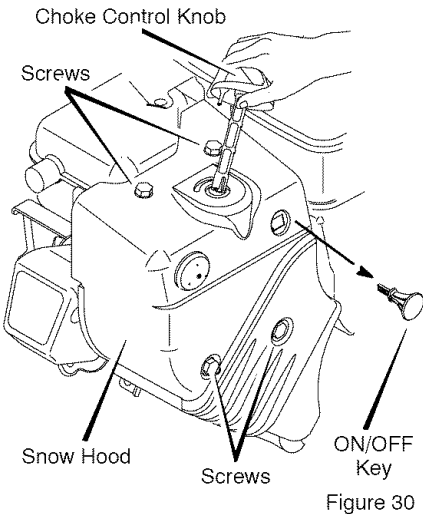

Figure 30
1. Remove the choke control knob (see Figure 30).